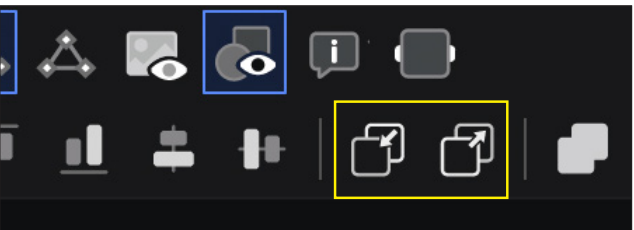

Figure 22
3. You can also use the two layering keys in the above toolbar. **See Figure 22.**